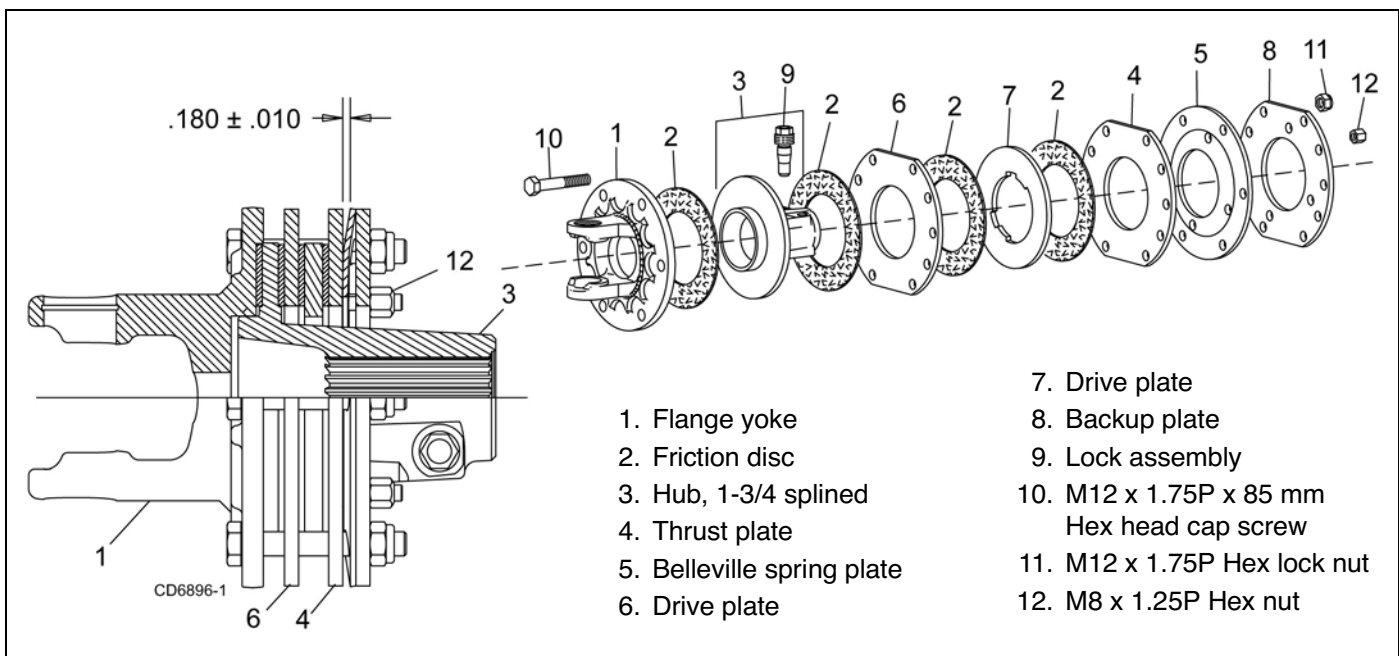

Figure 8. Slip Clutch Assembly
SLIP CLUTCH ADJUSTMENT (Figure 8)
2. Tighten four nuts (12) to remove pressure from the clutch plates (2). Repeat for all three clutches.
4. If clutches slip freely, completely loosen nuts (12).
5. If clutch does not slip freely, disassemble and clean plates (4, 6, 7), flange yoke (1), and clutch hub (3).
7. Tighten Belleville spring (5) with nuts (11) until it is against the thrust plate (4) of the clutch. Back off each of the four nuts (11) until gap between Belleville spring and thrust plate is .180 or 3/16" as shown in Figure 8.
8. If a clutch continues to slip when the spring is compressed to .180 or 3/16" gap, check friction discs (2) for excessive wear. Discs are 1/8" when new. Replace discs after 1/16" wear. Minimum disc thickness is 1/16".